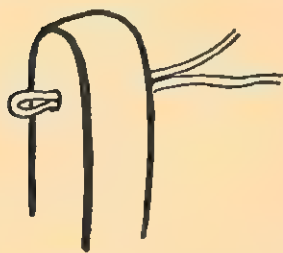

Fig. 1
5. ARM JOINTS. (1) Double string and pass loop through armhole from outside (see Fig. 1).